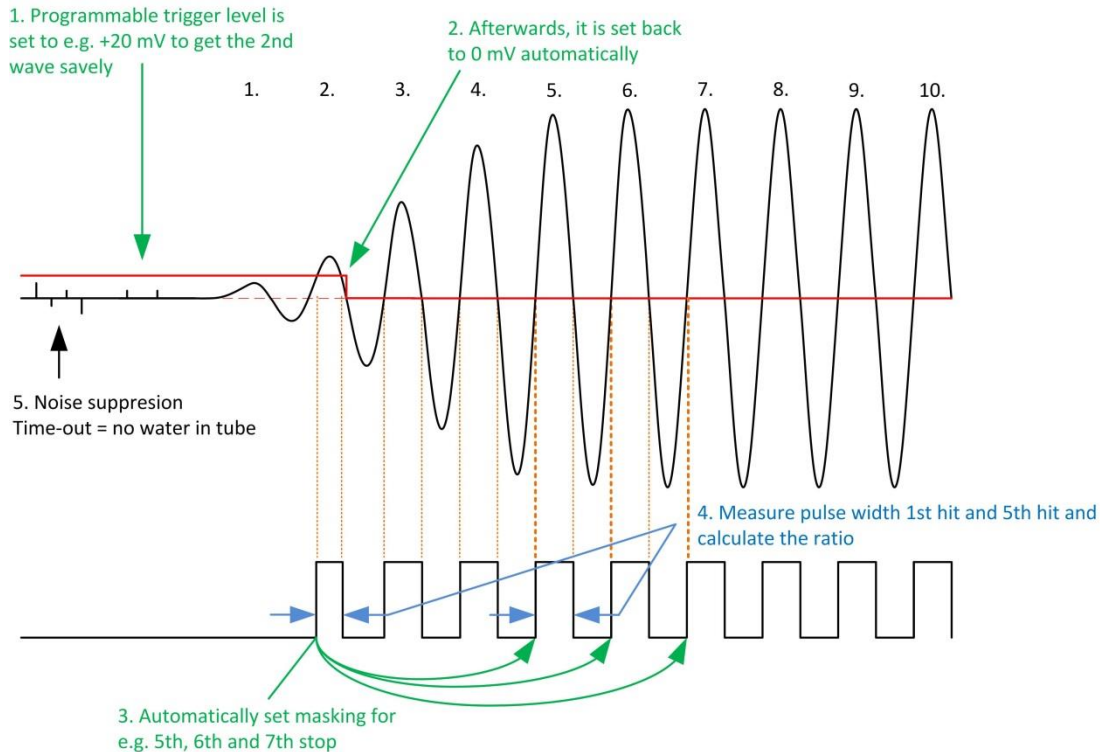

Figure 4-12: First Wave Mode
4. The half wave period (hwp) of the first true time measurement is measured as a reference for the first wave. In the example from figure 4-12 this would be the width of the 5th wave.